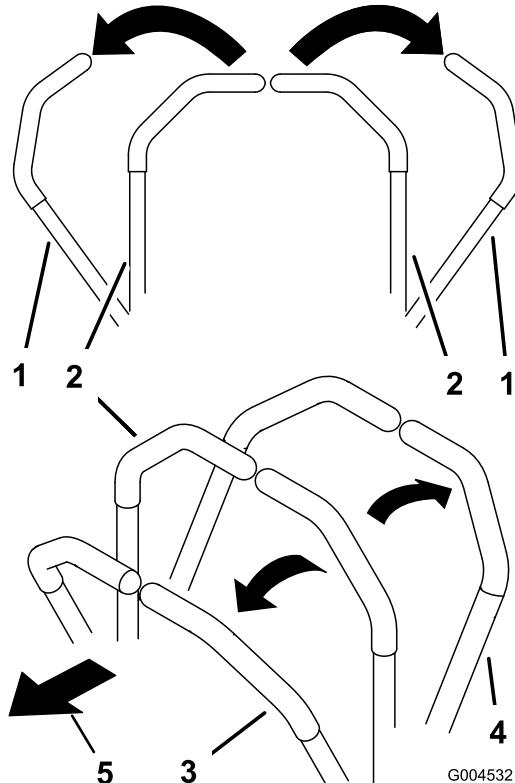

Figure 19
1. Move the motion control levers (Figure 19) out to the neutral locked position.
- To go straight forward, slowly push the motion control levers forward (Figure 19).
- To go Straight backward, slowly pull the motion control levers rearward (Figure 19).
- To turn, slow the machine by pulling back on both levers and then push forward on the lever on the opposite side from which you want to turn (Figure 19).